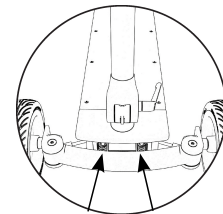

FIG 3. SPRINGS
5. The self centering springs in the front of the CycleBoard may initially make squeaking and clicking sounds when steering but will stop after a short break in period. Shown in **Fig 3**.